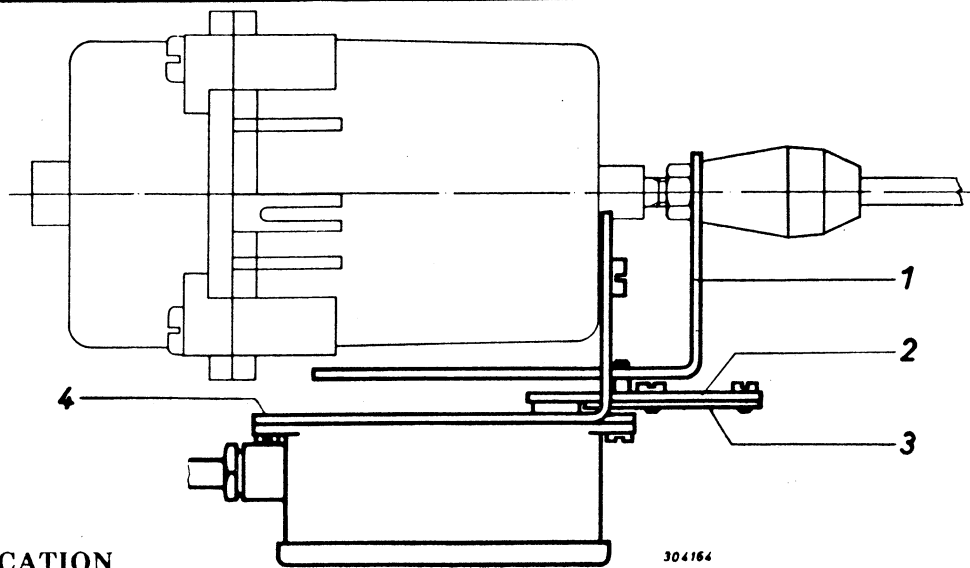
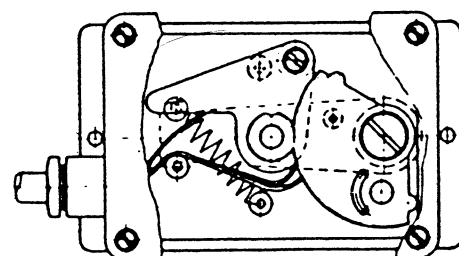

Fig. 1
Fig. 3
**ASSEMBLY** (Fig. 1)
2. By turning, bring the lever (2) into position shown in diagram. Secure strap and pin (3) (strap flush with end of lever).
3. Assemble unit to mounting angle plate (4) and screw securely to drive so that the pin engages in the slanted slot.
**XAP 1** (Fig. 1 and 2)
- First switch: bring drive spindle to about centre position (apply pressure to drive). Turn the toothed segment anticlockwise until the lever (8) is in contact with the switch casing. By changing the pressure retract the drive spindle fully (the slipping clutch prevents damage).
- Second switch: Release screw (7), set to outside position and lightly secure. With extracted spindle (a pressure of 1,2 bar at the drive when necessary), press with a finger anti-clockwise on the outside lever (2) and turn the adjustable driver (6) until lever (8) lies on the switch housing. Secure screw (7).
**XAP 2** (Fig. 3)